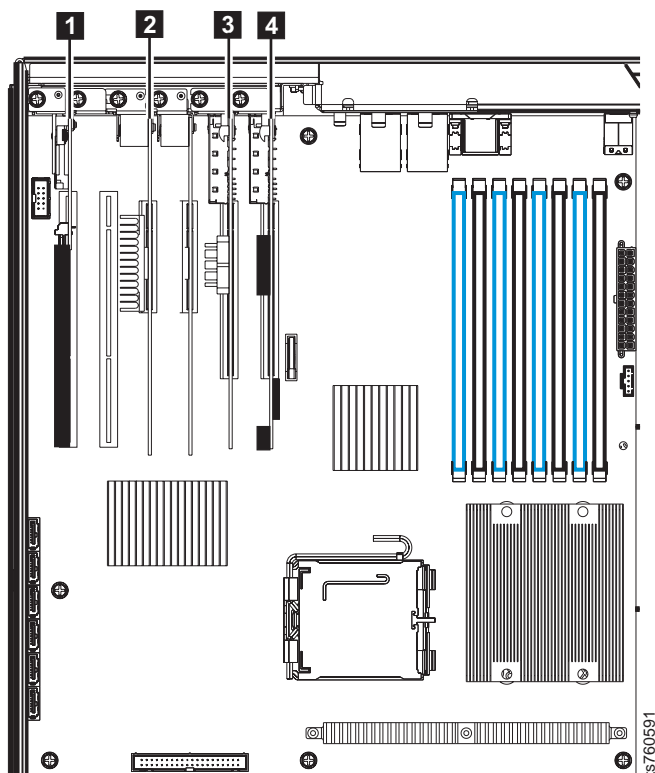

Figure 50. PCI Cards
- Figure 50 on page 72 displays the locations of the PCI cards. The fibre channel card is placed in PCI slot marked **3**.